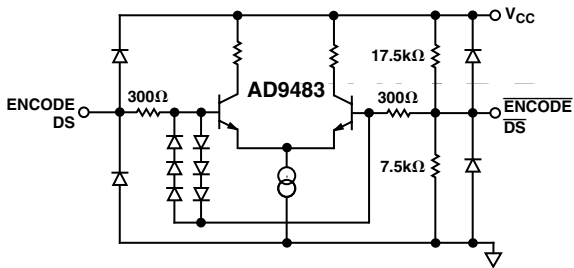

Figure 5. Equivalent Encode and Data Select Input Circuit
ENCODE and Data Select (DS) can be driven differentially or single-ended. For single-ended operation, the complement inputs ( $\overline{\text{ENCODE}}$ ,  $\overline{\text{DS}}$ ) are internally biased to  $V_{DD}/3$  ( $\sim 1.5\text{ V}$ ) by a high impedance on-chip resistor divider (Figure 5), but they may be externally driven to establish an alternate threshold if desired. A 0.1  $\mu\text{F}$  decoupling capacitor to ground is sufficient to maintain a threshold appropriate for TTL or CMOS logic.
Note the 6-diode clock input protection circuitry in Figure 5. This limits the differential input voltage to  $\pm 2.1\text{ V}$ . When the diodes turn on, current is limited by the 300  $\Omega$  series resistor. Exceeding 2.1 V across the differential inputs will have no impact on the performance of the converter, but be aware of the clock signal distortion that may be produced by the nonlinear impedance at the converter.